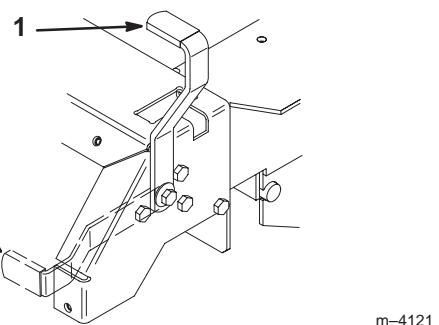

Figure 4
2. Pull back and up on the parking brake lever to set the parking brake (Fig. 4). The parking brake lever should stay firmly in the Engaged position.
Push forward and down on the parking brake lever to release the parking brake (Fig. 4).